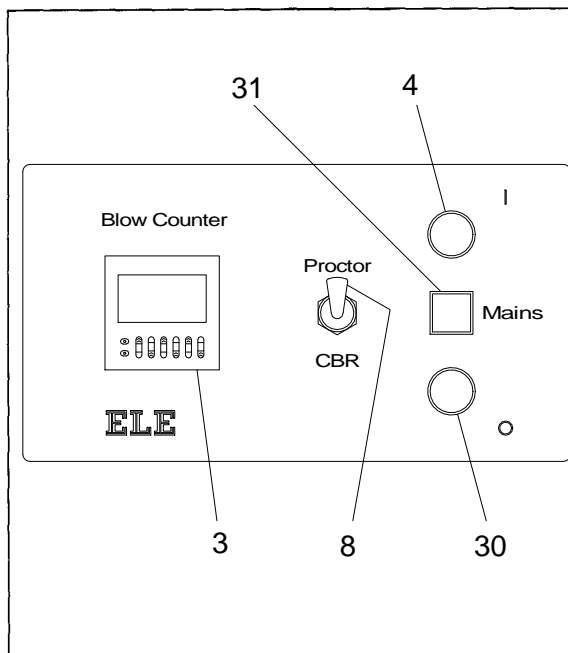

Figure 2 Controls
- 5.1 Main controls (figure 2)
### 6.1 Mains supply (figure 2)
### 6.7 Setting Proctor/CBR switch (figure 2)
- 6.9    Compaction (figures 2 and 4)